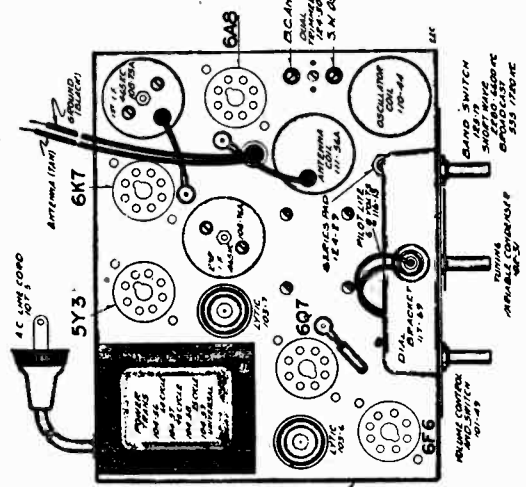

FIG. 1-TOP VIEW
- (a) Set external oscillator to 6.6 megacycles and adjust short wave oscillator trimmer to resonance. This adjustment is marked "S.W. Osc." (see top view of chassis, Fig. 1, for location of this adjustment).